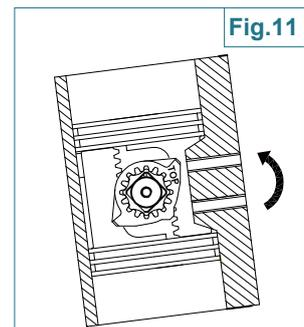

Fig.11
- Press the two pistons(07) simultaneously inside the body (06) until the pistons are engaged, then rotate the body Clockwise (from bottom view) or Counterclockwise (from top view) until the stroke is completed.
- Ensure that when the pistons are inserted that they both mesh at the same time. Check fully closed and open positions as shown in Fig.11.
- Fit position indicator (02) on the pinion and ensure that it indicates the correct position, then fix cap screw (01) with a screwdriver.